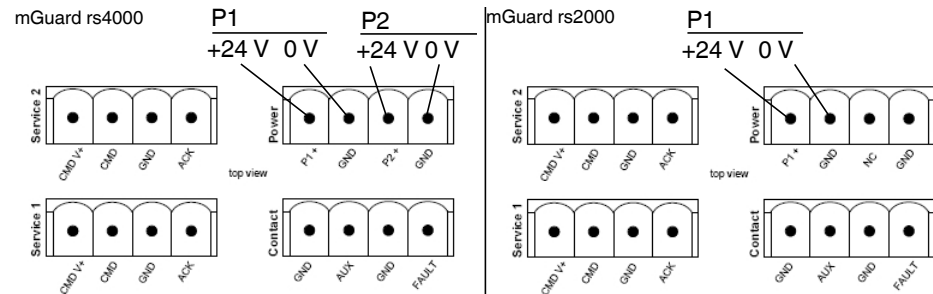

Figure 1-4 Connecting the supply voltage
- Insert the screw terminal blocks into the intended sockets on the top of the mGuard (see Figure 1-4).